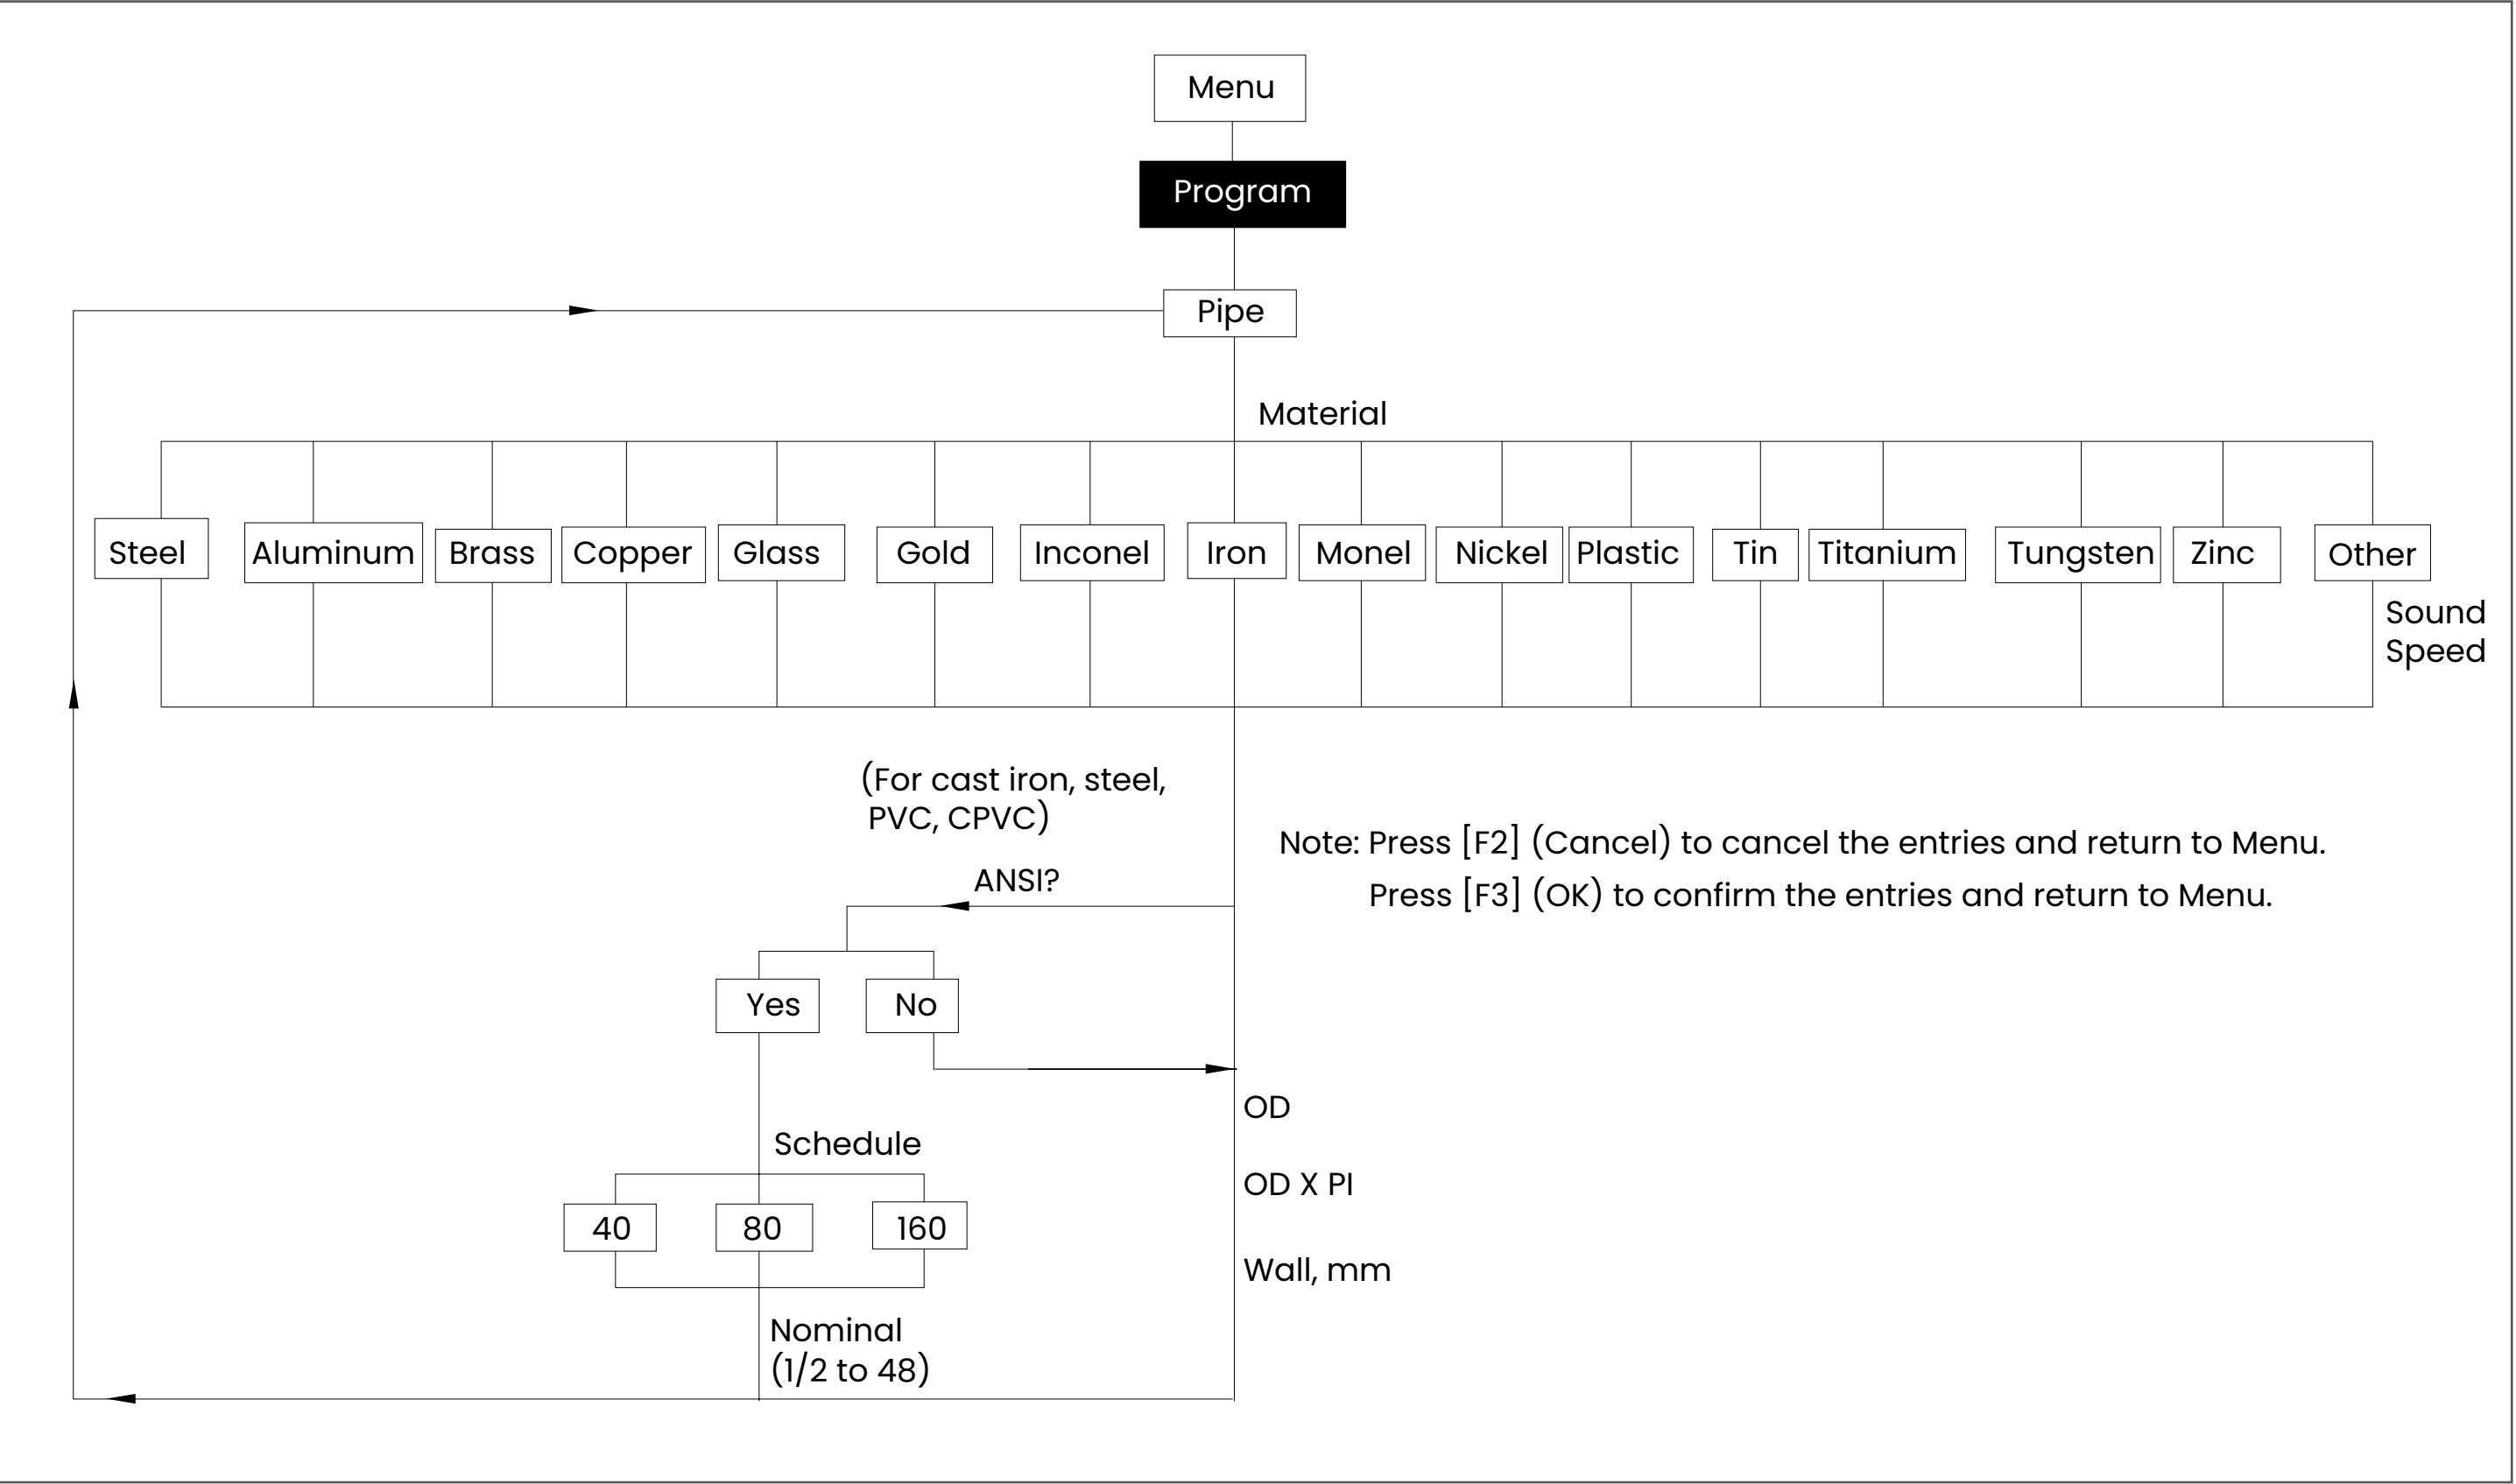

Figure 165: The Program Menu: Pipe Option
- *Figure 165, "The Program Menu: Pipe Option" on page 139*